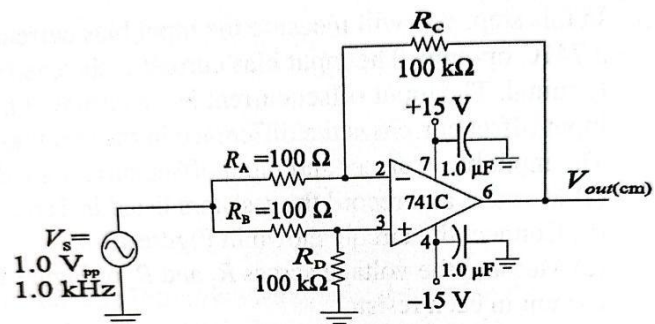

Figure 19-4
- Connect the circuit shown in figure 19-4. Set the signal generator for 1 V_{pp} at 1 kHz. Measure the output voltage, $V_{out(cm)}$. Determine the common-mode gain, $A_{v(cm)}$, by dividing $V_{out(cm)}$ by $V_{in(cm)}$. Record the result in Table 19-1.